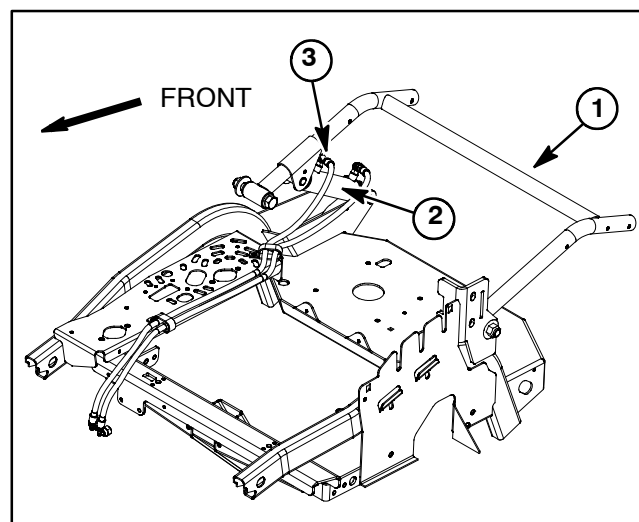

Figure 26
6. Place a drain pan under the groomer lift cylinder. Clean and remove hydraulic hose from the 90° fitting on the rod end of the lift cylinder (Fig. 26). Plug the end of the disconnected hose with a steel plug.